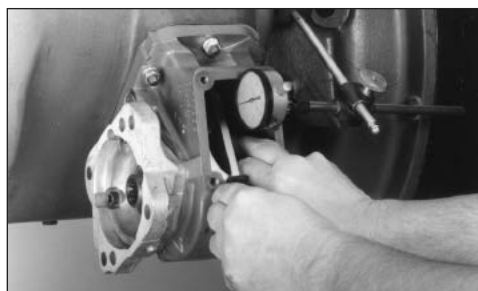

Figure 12
2. Mount the dial indicator so that it registers movement of the input gear (driven gear) of the PTO (**Fig. 12**).